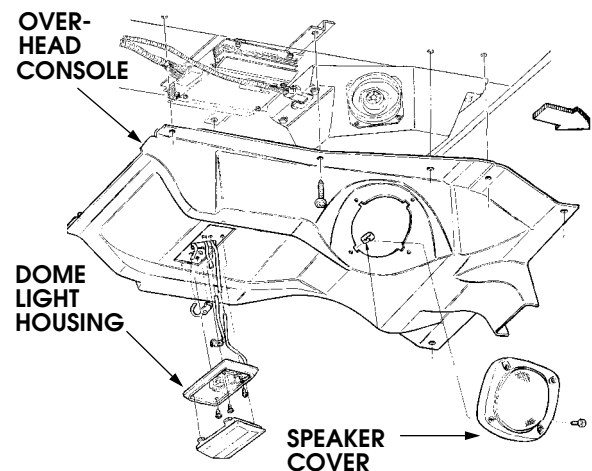

Figure 12-114.5: Overhead Console Removal.
2. Remove dome light lens, screws securing ground wires and housing (Figure 12-114.5).